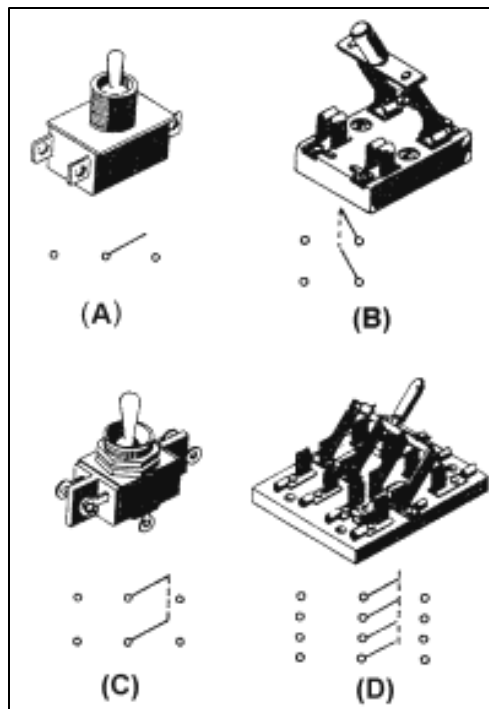

Figure 10: Multicontact switches.
Figure 10 will help you understand this concept by showing illustrations of various multicontact switches and their schematic symbols.
Figure 10(A) shows a single-pole, double-throw switch, abbreviated SPDT. The illustration shows three terminals (connections) on this switch. The schematic symbol for the switch is also shown. The center connection of the schematic symbol represents the point at which current enters the switch. The left and right connections represent the two different points to which this current can be switched. From the schematic symbol, it is easy to determine that this is a single-pole, double-throw switch.
Now look at Figure 10(B). The switch is shown with its schematic symbol. The schematic symbol has two points at which current can enter the switch, so this is a double-pole switch. Each of the poles is mechanically connected (still electrically separate) to one point, so this is a single-throw switch. Only one throw is required to route two separate circuit paths through the switch. This would be designated as a DPST, or double pole single throw, switch.
Figure 10(C) shows a double-pole, double-throw switch (DPDS) and its schematic symbol. Figure 10(D) shows a four-pole, double-throw switch (4PDT) and its schematic symbol. It might help you to think of switches with more than one pole as several switches connected together mechanically. For example, the knife switch shown in Figure 10(D) could be thought of as four single-pole, double-throw switches mechanically connected together.